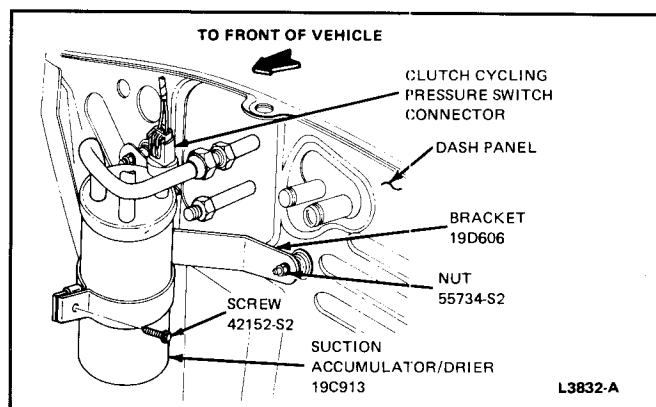

FIG. 25 Suction Accumulator/Drier
3. Disconnect the accumulator/drier inlet tube, (Fig. 25) from the evaporator core outlet. Use two wrenches to prevent component damage.
1. Disconnect the wire harness connector from the pressure switch (Fig. 25).